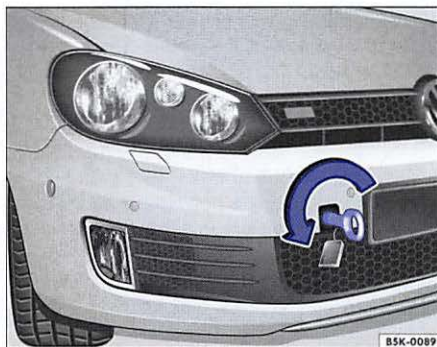

Fig. 180 In right front bumper: Screwing in towing eye.
There is a threaded hole for the towing eye in the right front bumper $\Rightarrow$ fig. 180.
- Screw the towing eye **counterclockwise** into the threaded hole as far as it will go (arrow) $\Rightarrow$ fig. 180 $\Rightarrow$ ①. Use the lug wrench to turn and tighten the towing eye.